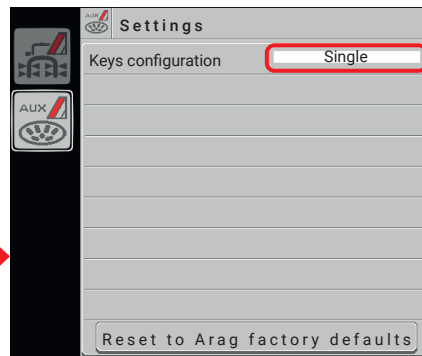

Fig. 18
- Within the Object Pool of the EXPLORER Joystick in the **Settings** menu choose the **Single** option (Fig. 18).